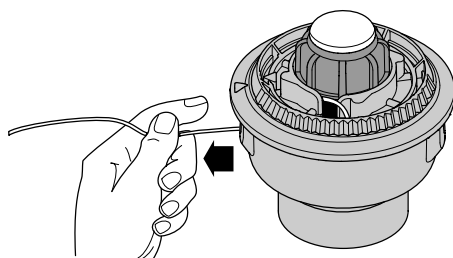

Fig. 22
6. Pull the line from the outer spool until the line is tight against the inner reel (Fig. 22).